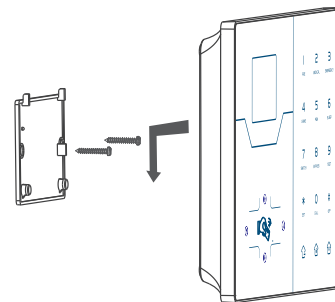

Figure 2-2
C. The alignment bracket hangs the main engine on the wall and pushes it down, as shown in Figure 2-2.